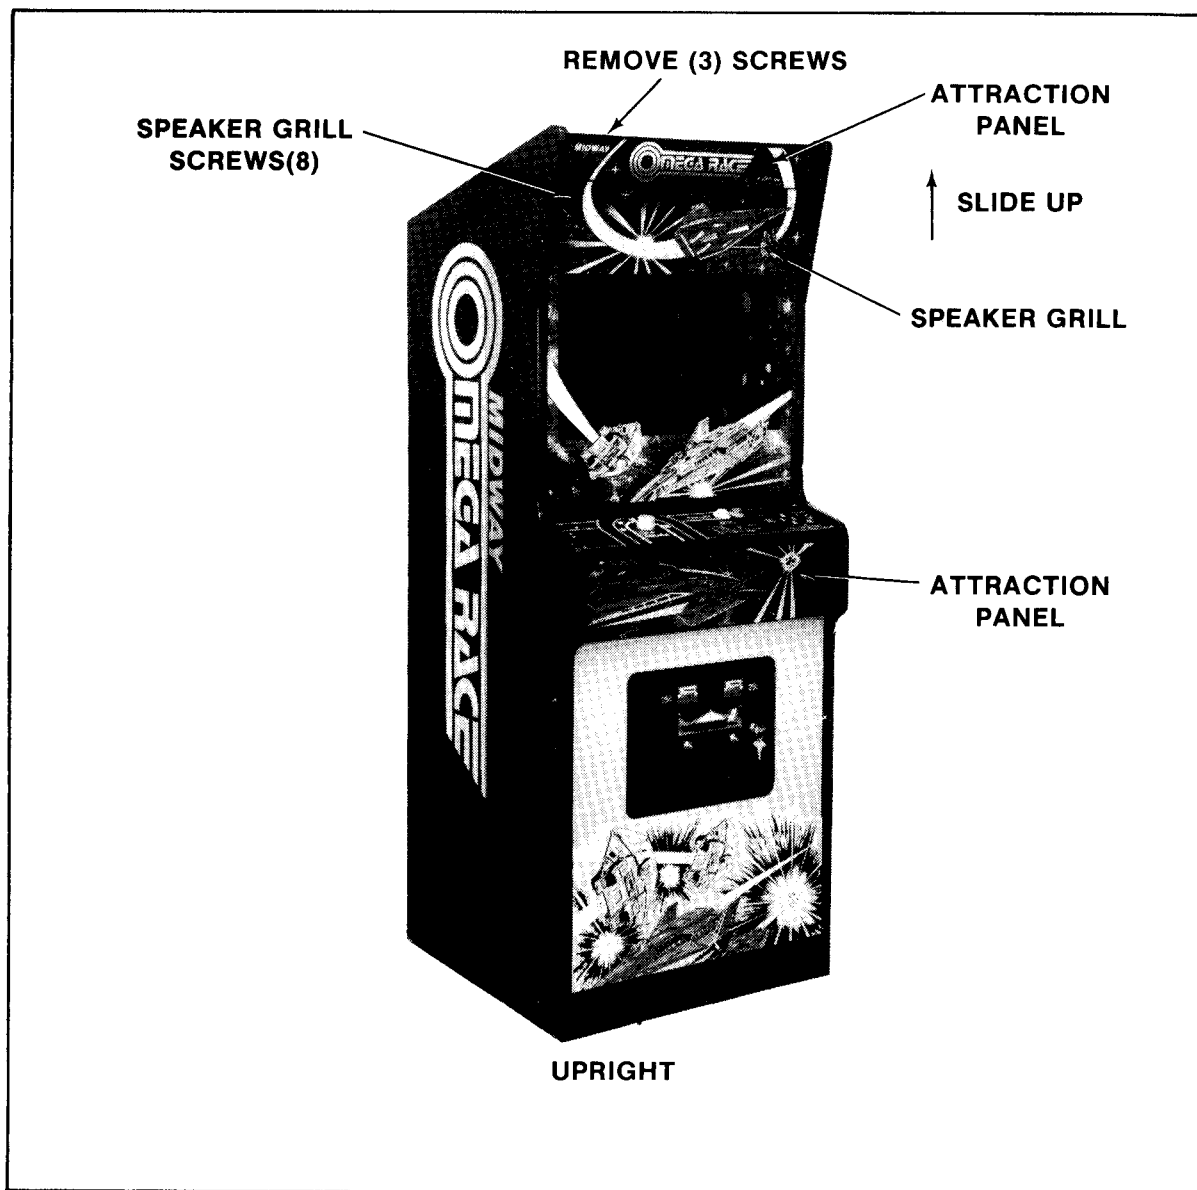

FIGURE 35
- b. Opening the attraction panel at the top of the cabinet — See Figure 35:
- c. Replacing the Speakers — See Figure 35: